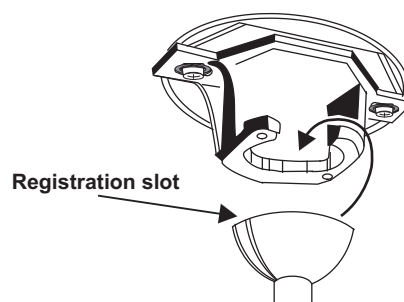

Figure 7
Step 7. Place the downrod ball into the hanger bracket socket. This will allow you to make the electrical connections. (Fig. 7)